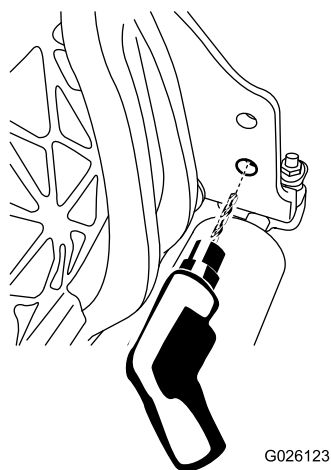

Figure 4
1. Enlarge the lower hole on the right side of the cutting unit using a 9 mm (23/64 inch) drill bit (Figure 4).